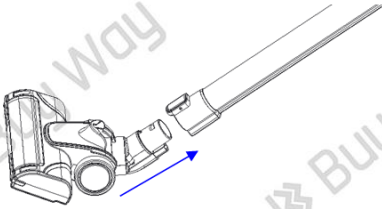

Fig. 3
- Insert motorized floor brush top round opening into the inlet of the lower part of the tube following the guides of both parts and ensure that it is tightened firmly onto the tube. After hearing the click, the motorized floor brush is installed in place (see fig. 3).